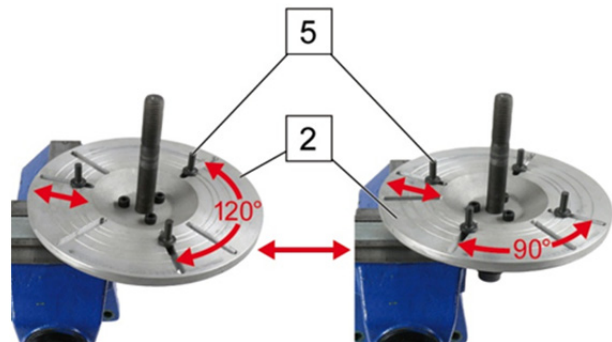

Fig. 3: Installing the support pins
3. Assemble the fixing plate (1) and tighten the wing nuts (5) (see Fig. 3).
4. Hold the fixing plate (1) in place and tighten the clamping nut (11).